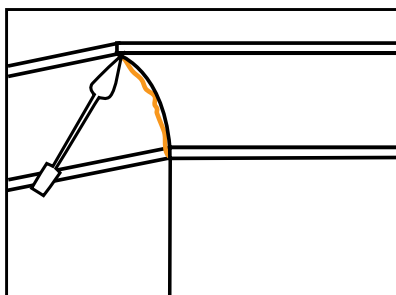

FIGURE 75 Mitres
- > Finish mitres using a small cornice tool [Figure 75]